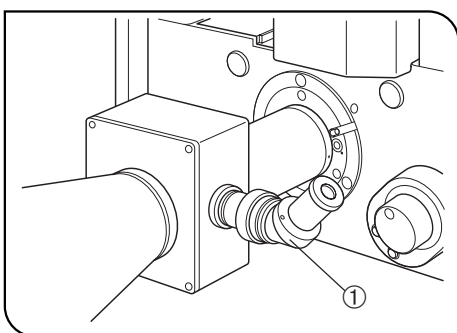

Fig. 58
☉ If the viewfinder of the photomicrographic system mounted on the side port is hard to view, it is recommended to use the optional U-FTV V-shaped focusing telescope. (Fig. 58)
- Slide the top portion of the U-FTV ① up or down until the photo masks are brought into focus. (Fig. 58)